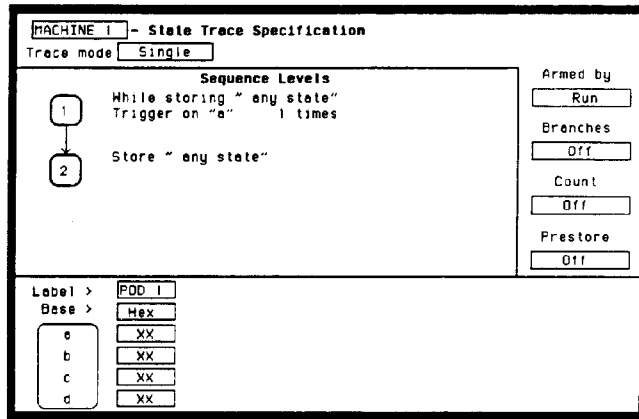

Figure 3-14. Trace Specification for Data Test 2
- Set the **State Trace Specification** without sequencing levels and set **Count** to **Off** as in figure 3-14.
- Set the **State Trace Specification** without sequencing levels and set **Count** to **Off** as in the previous test figure 3-14.
5. Set the **State Trace Specification** without sequencing levels and set the **Count** to **Off** as in the previous figure 3-14.